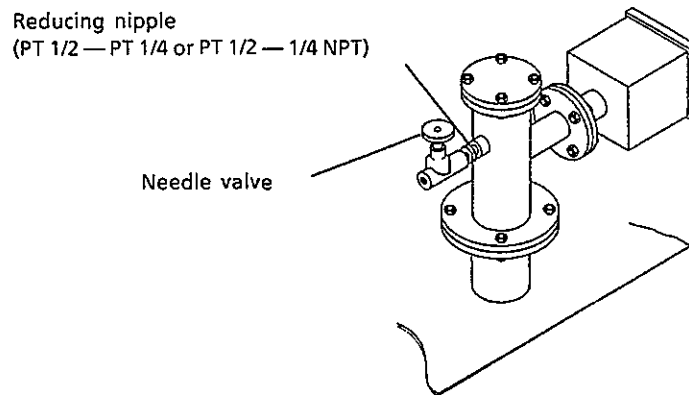

Figure 4.4 Connecting the needle valve for adjusting the sample gas exhaust volume
- If a high-temperature detector is used and the pressure of the gas to be analyzed is above 50 mm H2O, it is recommended that a needle valve (throttle) be used in the sample gas exhaust of the high-temperature probe adapter (see Section 4.1.4, Figure 4.4).
- If a high-temperature detector is used and the sample gas pressure exceeds 50 mm H2O, "throttle" with the needle valve is required at the sample gas exhaust hole of the high-temperature probe adapter (see Section 4.1.4, Figure 4.4).
- If the pressure of the gas to be analyzed is over 50 mm H2O when using a high-temperature detector, "throttle" such as that obtained by the needle valve is required at the sample gas exhaust hole of a high-temperature probe adapter (see Section 4.1.4, Figure 4.4).